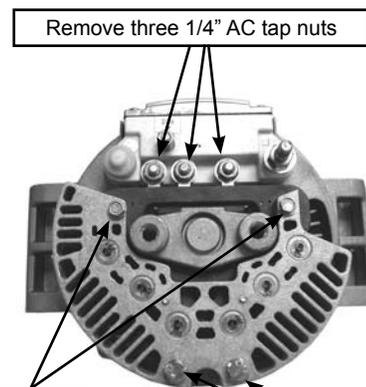

Fig 2
See Fig 2.
Step 5: Remove two screws. See Fig 2.